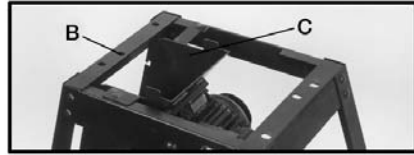

Fig. 9
2. The infeed end of the jointer is fastened to the two holes (A) Fig. 9, and the outfeed end of the jointer is fastened to hole (B) on the two top end braces. **NOTE:** Dust chute (C) is on outfeed end of jointer. Line up the three threaded holes on the bottom of the jointer with the three holes (A) and (B) in the stand end braces.